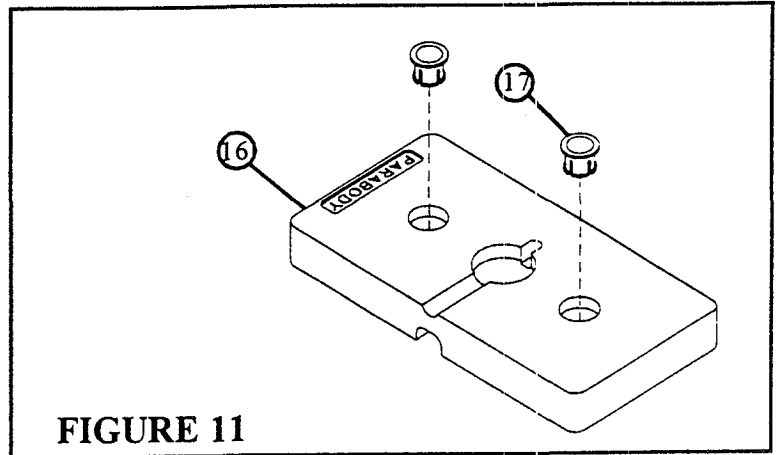

FIGURE 11
- Insert two WEIGHT PLATE BUSHINGS (17) into the "PARABODY" side of each of the fifteen WEIGHT PLATES (16) as shown in FIGURE 11.